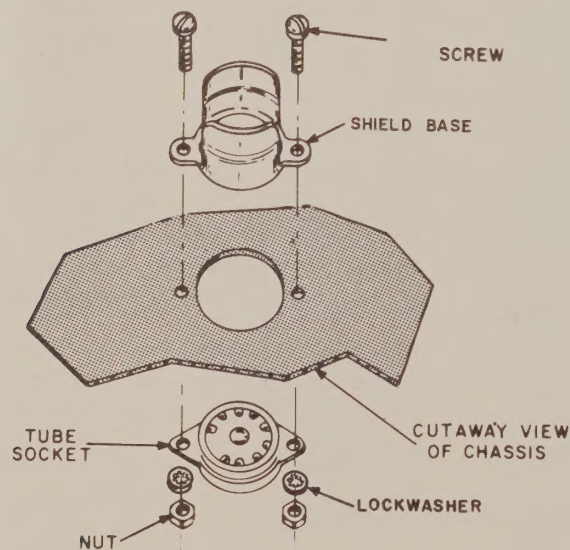

FIGURE 3. SHIELD BASE MOUNTING
- ☐ Four 9-pin tube sockets and four shield bases for V-1 through V-4. Position the shield bases on top of the chassis and the sockets on the bottom with the keyways positioned as shown. Mount each with two 4-40 x  $\frac{1}{4}$ " screws, lockwashers and nuts as shown in Figure 3.